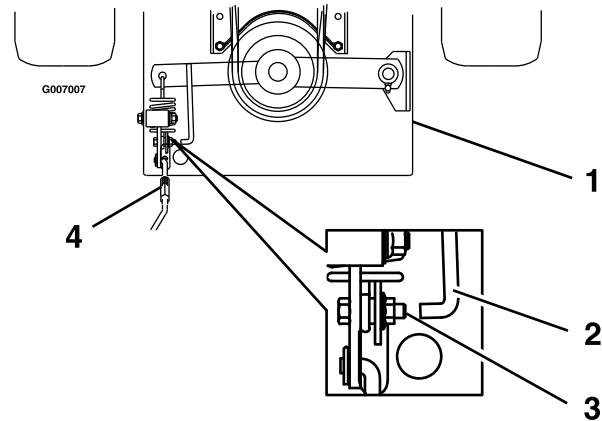

Figure 15
3. Look through the round hole in the left rear corner of the engine deck to inspect blade clutching belt tension. Bolt on blade engagement linkage bellcrank and indicator arm should align within 1/16 inch (1.6 mm) (see Figure 15). Refer to **PTO Engagement Linkage** for adjustment.